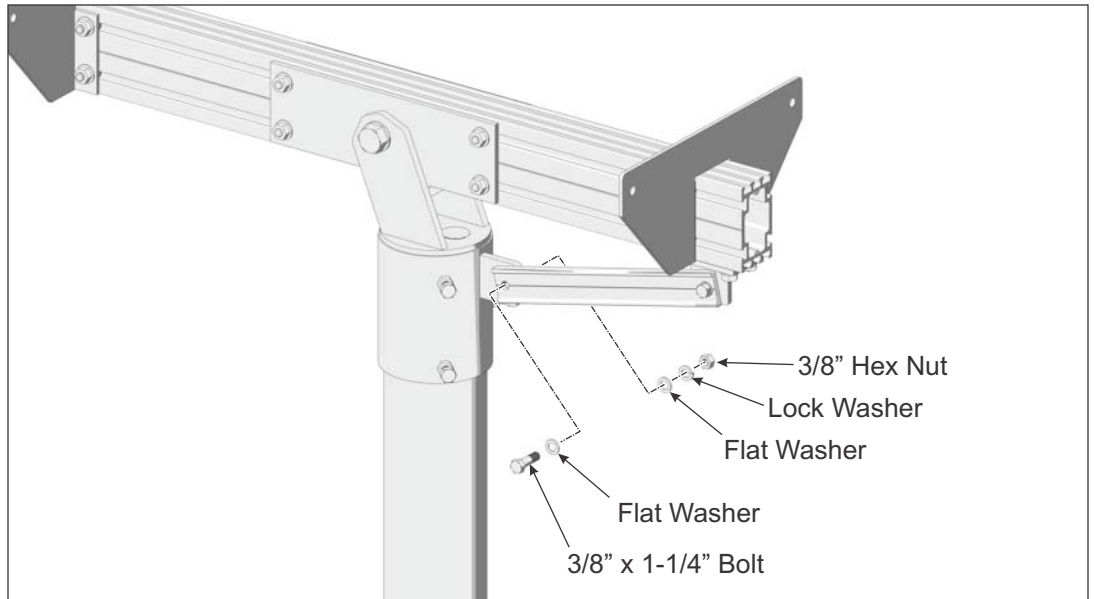

Figure 2-3: Securing Support Bar to Mounting Sleeve
- G. Slide the Support Bar Mounting Tab to align the mounting holes of the Support Bar with its Pivot Tab on the Mounting Sleeve. Slide the Support Bar over the Pivot Tab. Insert the 3/8" x 1-1/4" bolt and one flat washer thru the Support Bar and Mounting Tab and secure it with the remaining flat washer, lock washer and hex nut. **Torque hardware on both ends of Support Bar at 32-34 ft.-lbs. Torque the 3/8" Flange Nuts at 32-34 ft.-lbs.** (See Figure 2-3)